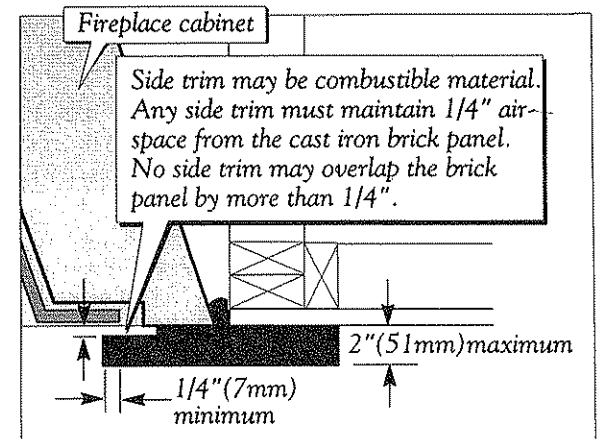
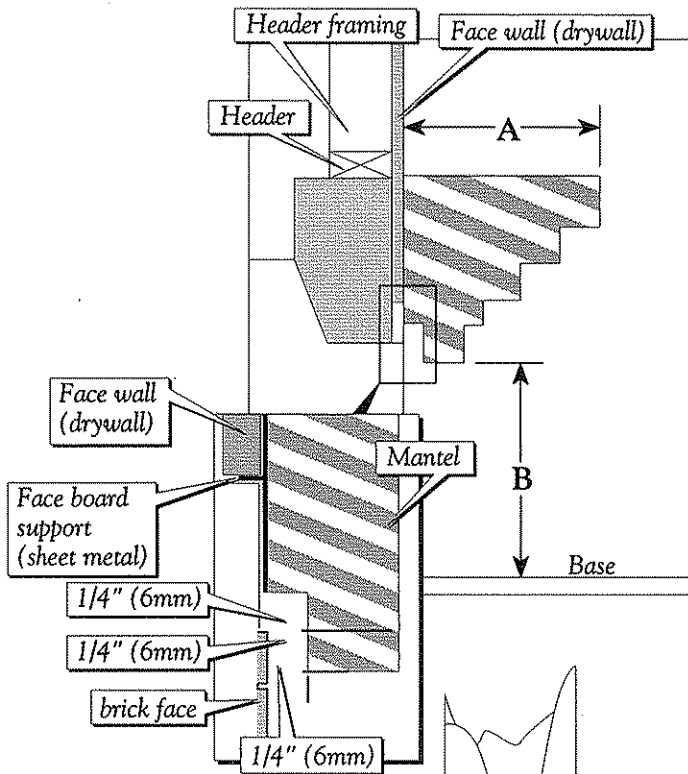

Figure 12. Finish trim clearance.
Figure 13. Mantel clearance.
- Combustible trim materials may overlap the painted steel fireplace face only as designed in Figures 12, 13 and 14. In no case may combustible materials be installed less than 2-1/2" (61 mm) above the air outlet opening, except as shown in Figures 13 & 14.
- Do not install any decorative facing material to overlap the cast iron brick panels around the fireplace, except as shown in Figure 12.
- Combustible face trim can overlap the cast-iron 'brick' panels by 1/4" maximum and only with 1/4" air space as shown in Fig. 12.
Clearances for a combustible mantel or trim above the fireplace opening will vary depending on the depth (A) of the material. The following table corresponds to Figure 13. Mantels available from Vermont Castings meet these clearance requirements. The following information is for custom built mantels or trim.
The mantel or side trim may extend over the brick facing by no more than 1/4" to obscure the brick/sheet metal interface *if* it is constructed to maintain 1/4" of air space, as shown in Figure 13. The lowest point on the inside (back) of the mantel must be at least 39 1/2" above the base of the fireplace.